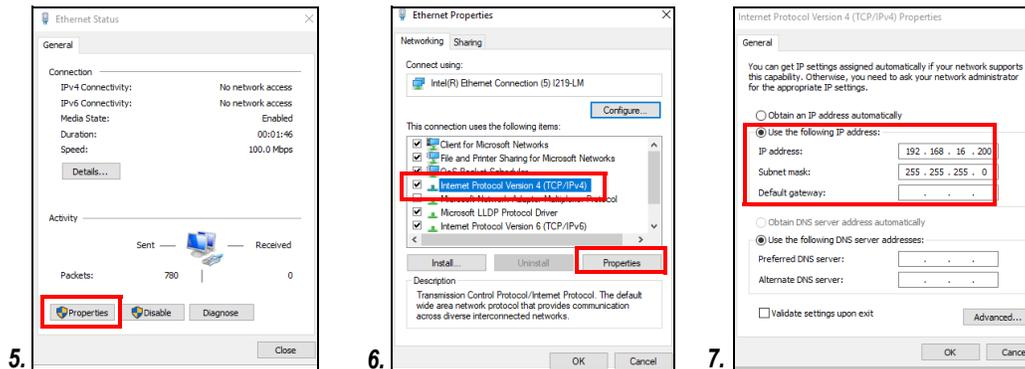

Figure 2-6. Ethernet Status
5. In Ethernet Status, click Properties. See step 5 in Figure 2-6.
6. Highlight Internet Protocol Version 4 (TCP/IPV4) and click Properties. See step 6 in Figure 2-6.
7. Toggle **Use the following IP address**. See step 7 in Figure 2-6.